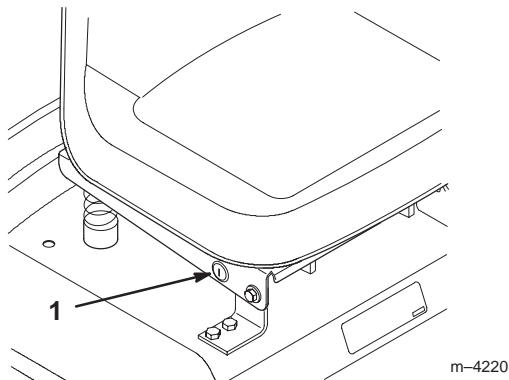

Figure 14
If you need to use the PTO while backing up, you can turn off this interlock feature using the KeyChoice switch located near the seat bracket (Fig. 14).
2. Insert the KeyChoice key into the switch (Fig. 14).